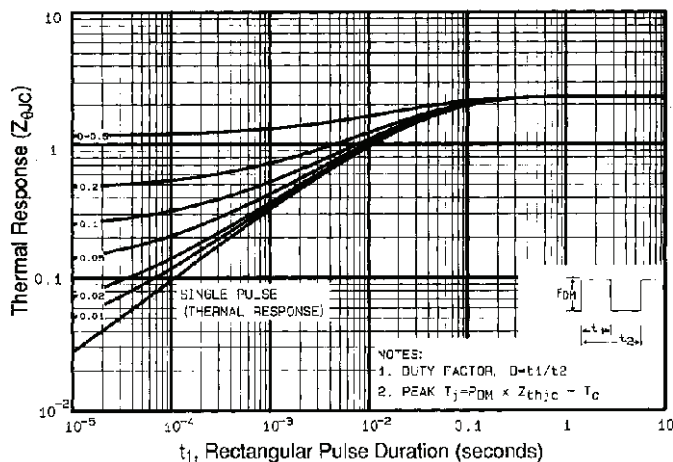

Fig. 12 - Maximum Effective Transient Thermal Impedance, Junction-to-Case
- VDD = 50 V; starting TJ = 25 °C, L = 117 mH, Rg = 25 Ω, IAS = 1.7 A (see fig. 12)